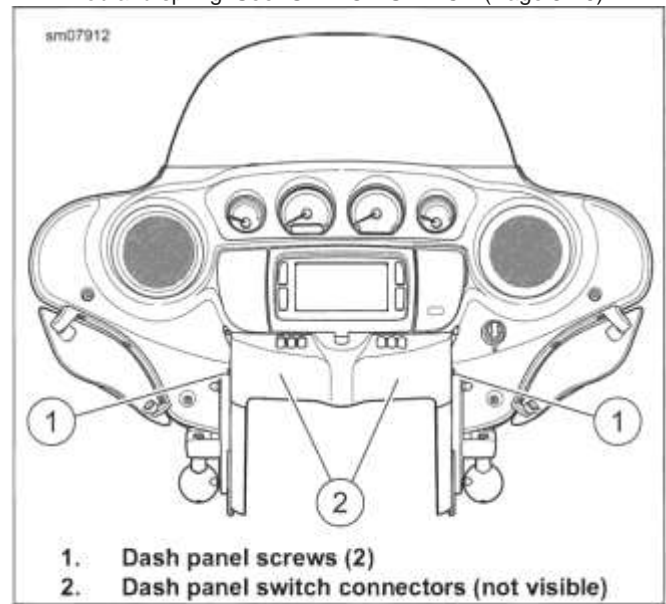

Figure 3-100. Dash Panel Screws
- See Figure 3-100. Remove two screws (1) (with flat washers) to release dash panel.
- Lift dash panel and disconnect dash panel switch connectors (2).
- See Figure 3-100. Mate switch connectors (2).
- Install two screws (1) (with flat washers) to secure dash panel. Tighten.